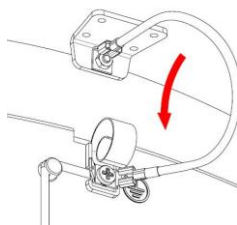

Figure 8.
- Connect earth wire supplied from the upper rib of metal casing to grounding terminal on base plate as shown on Fig.8.
- Carefully place the casing on the base of the device. To do so place it over the base with a slight incline from top to bottom, in such a way that the tab in the casing correctly inserts into the corresponding slot in the base (Figures 8 and nº 9).